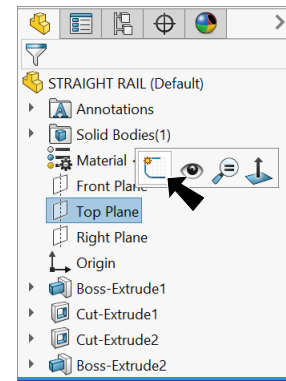

Fig. 24
Step 1. Click **Top Plane**  in the Feature Manager and click **Sketch**  on the context toolbar, **Fig. 24**.